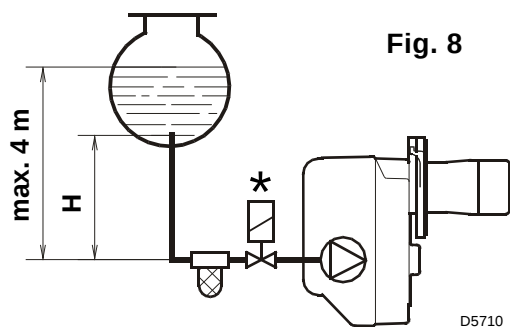
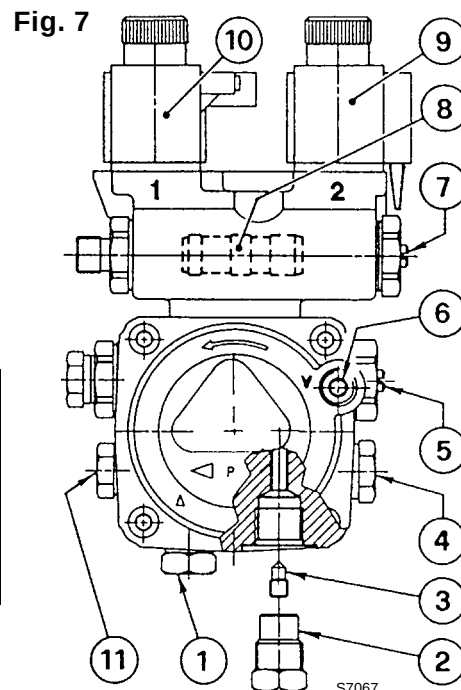

Fig. 8
Fig. 7
- The pump is designed to allow working with two pipes. In order to obtain one pipe working it is necessary to unscrew the return plug (2), remove the by-pass screw (3) and then screw again the plug (2), (see fig. 7).
On the system in fig. 8 it is sufficient to loosen the suction gauge connection (6, fig. 7) and wait until oil flows out.